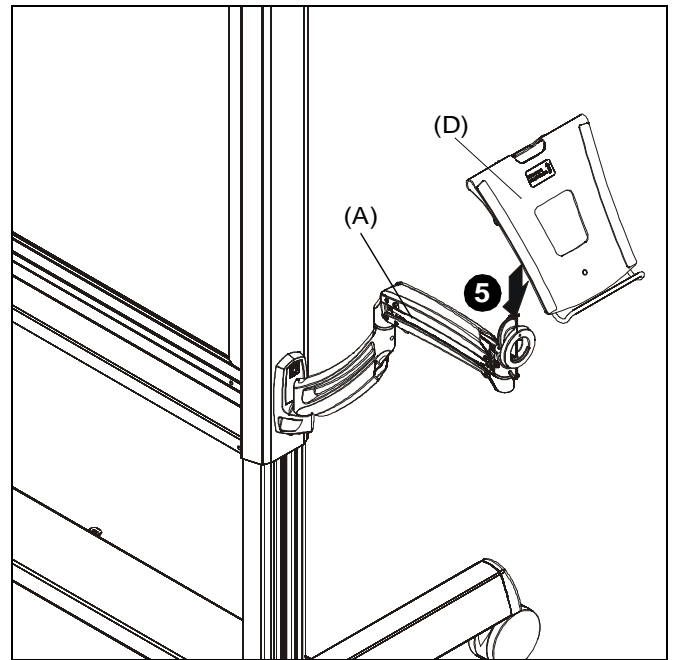

Figure 2
4. Position laptop tray (D) above swing arm mounting head. (See Figure 2)
5. Slide laptop tray onto mounting head until quick release tab clicks into place. (See Figure 2)